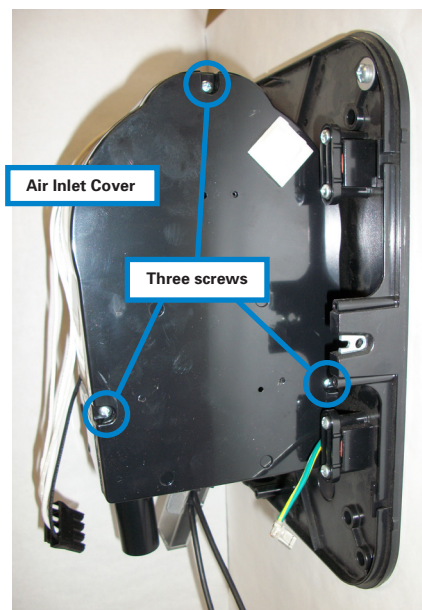

Figure 3-3
Step 3-3. Remove the air inlet cover by unscrewing the **three (3)** screws attaching it. Save all three of these screws for later use in Step 3-10. (Figure 3-3)